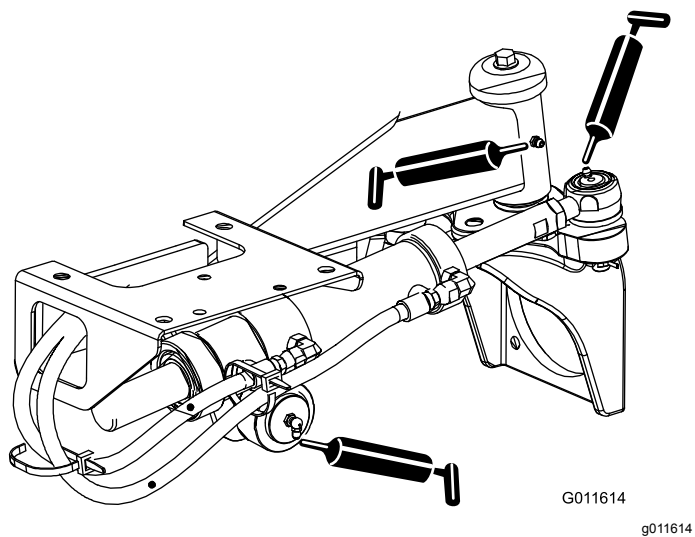

Figure 35
- Steering-cylinder ball joints (2) and rear axle (1)—Figure 35